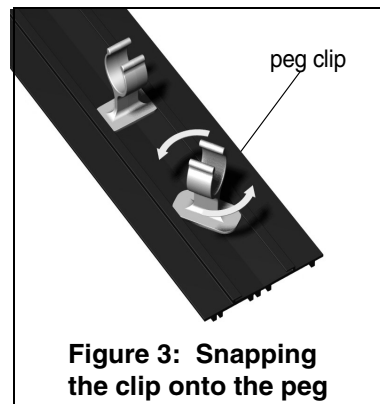

Figure 3: Snapping the clip onto the peg
b) Begin connecting the track to the board at one end. To attach the track to a peg, place a peg clip into the slot on the underside of the track at the location of the peg. The peg clips should be twisted in the slot so the edges of the slot capture the clip (See Figure 3). Slide the clip in the slot a short distance to align it with the peg on the board.